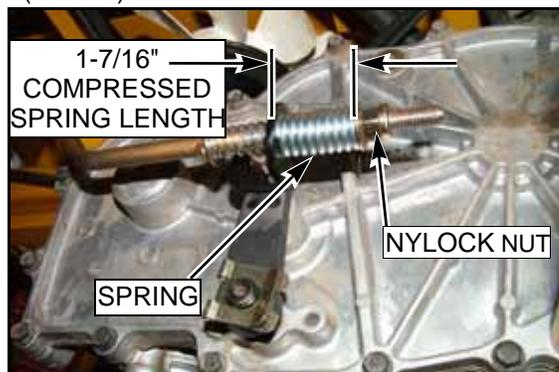

FIG. 67
3. Measure the park brake spring. It should be compressed to 1-7/16". If it is not, adjust the nylock nut until the proper spring compression is achieved (FIG. 67).